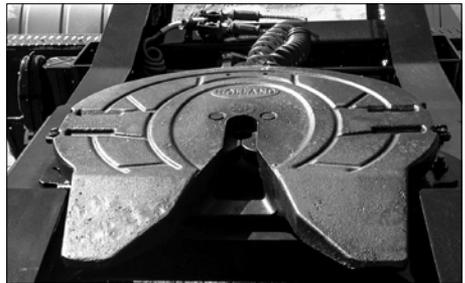

Figure 3
- a. Make sure the fifth wheel (Fig. 3) is properly lubricated, the locks are open and the ramps are tilted down in the proper position.